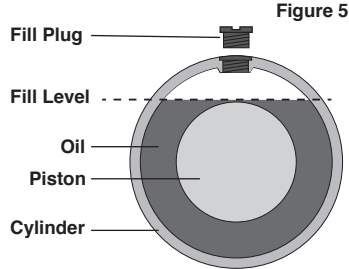

Figure 5
- c. With the jack upright, add a high quality hydraulic oil (not included) until the oil level inside the cylinder just covers the top of the piston. Be VERY CAREFUL not to allow dirt or foreign matter into the system. See Figure 5.